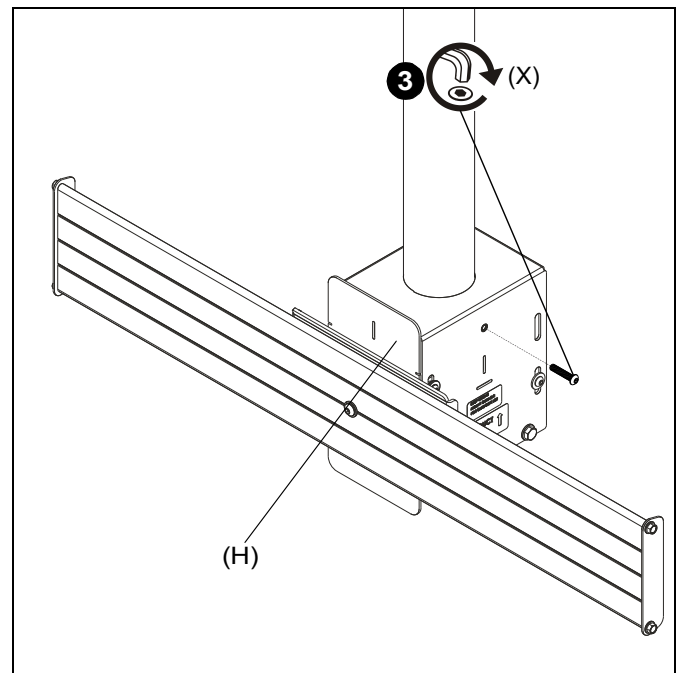

Figure 3
3. Install 1/4-20 x 1 1/4" button head cap screw (X) into mount assembly (H) to prevent column from rattling. (See Figure 3)